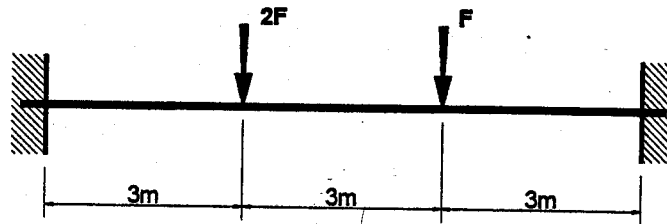

Figure Q1
- (a) Figure Q1 shows a prismatic beam with fully fixed end supports (*encasté*), subject to the factored loading shown. It is also fully restrained laterally. This beam is made from a linear-elastic-perfectly-plastic material with  $M_p = 375 \text{ kNm}$ . Analyse the beam on a step-by-step hinge-by-hinge basis and plot (and annotate) the load-deflection history to collapse. The material elastic modulus is  $E$ , and the second moment of area is  $I$ .